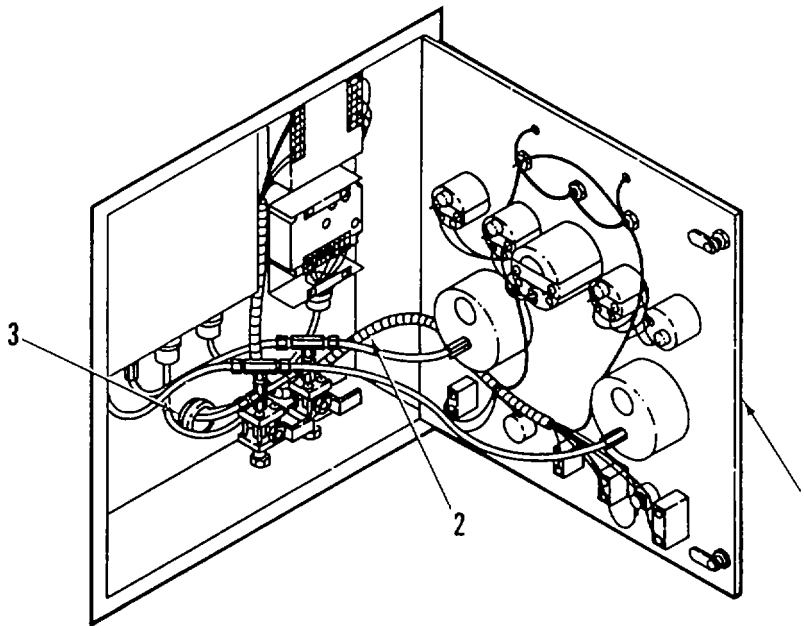

Figure 2-16. Control Panel Wiring Harness
a. **REMOVE.** (Figure 2-16)
- (1) Gain access through engine maintenance access door. Tag and disconnect P1 and P9 from J1 and J9 behind control panel. Remove dampers.
- (2) Swing open control panel door (1).
- (3) If harness is to be reused, make sure every terminal is identified with connection points before removal. As required, tag untaged connectors.